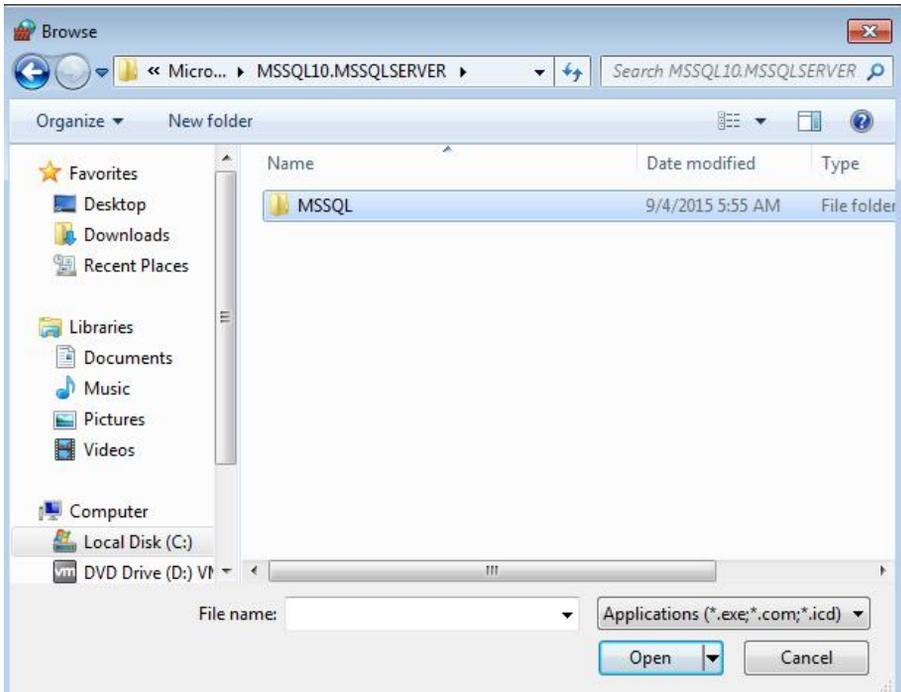

Fig.1.22 MSSQL10.MSSQLSERVER
(9) Open "MSSQL" folder (see Fig.1.22).